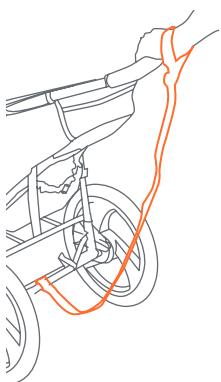
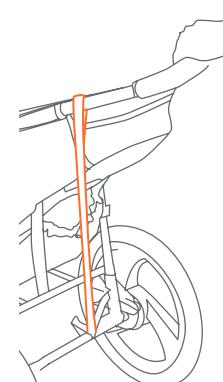

Fig. 16a
Fig. 16b
- SAFETY WRIST STRAP:** Always connect the safety strap to either wrist when jogging. This strap will keep the stroller from rolling away in the event that you trip while running (Fig. 16a). The safety strap must remain connected to the rear lower frame cross member at all times. This location is intended to prevent the stroller being tipped backward in the event that you do fall to the ground. The safety strap includes a hook and loop attachment for storage, on the left side of the stroller, when not in use (Fig. 16b).